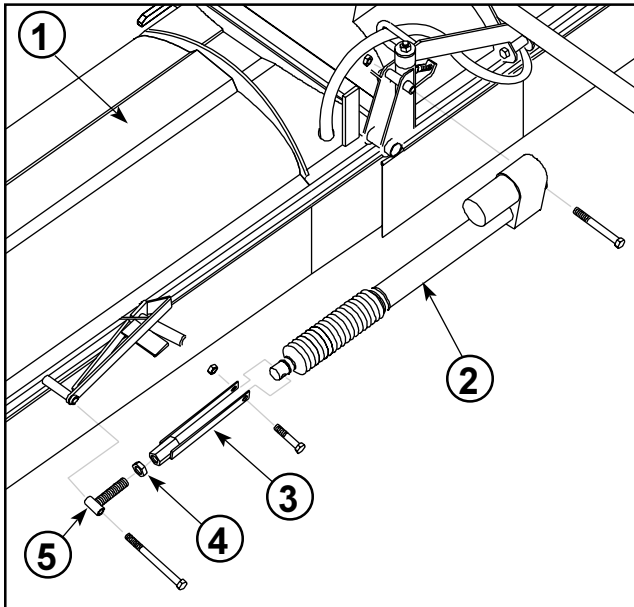

FIG 14
1. Assemble the Boom Extension Electric Lift Adjustment Links onto the Right and Left Boom Extensions using 1/2" x 8 1/2" hex hd. cap screws and locknuts. Assemble Electric Actuators onto the Boom Extension Breakaway Pivots using the 1/2" x 5" hex hd. cap screws and locknuts. Connect the other end of the Actuator to the Actuator Adjustment Link using the 1/2" x 2" hex hd. cap screws and lock nuts. FIG 14.
1. Assemble the Drift Seal sections into the Retainer Molding slots located on the lower edge of the Boom. The longer pieces will be easier to install if a light lubricant such as liquid soap or a silicone based product (i.e. Armour All) is used. (FIG. 14) The end of the Drift Seal at the Hood opening should be flush with the Drift Seal Retainer Molding.
2. Screw (12) #10 x 2" Drift Seal Retainer Screws into ends of curtain, setting head of screw flush with Retainer Molding. Where screws can not be used, crimp the end of the Retainer Molding 1/8" using Vice Grip pliers with tape on jaws to prevent scuffing of the molding.